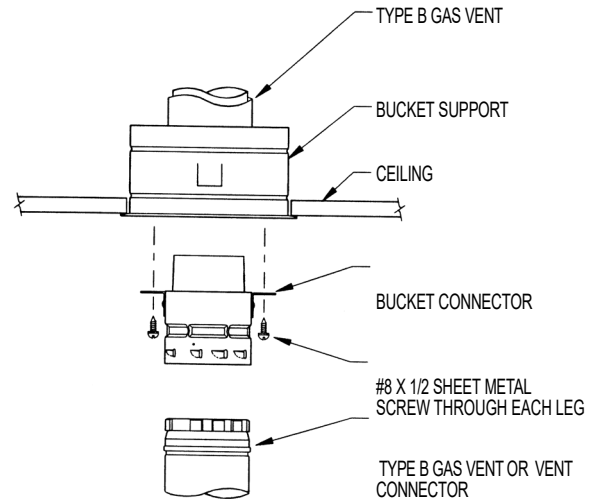

Figure 5
- The Bucket Connector is installed by positioning it against the bottom of the Bucket, as shown in Figure 5, with the mounting tabs against the bottom of the bucket.